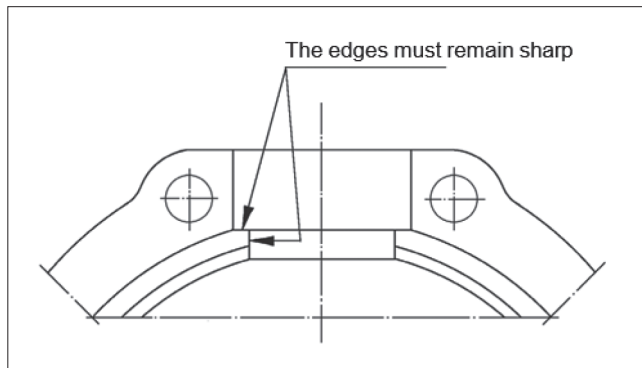

Fig. 6 Sealing surfaces
- Do not round the sharp edges at the convergence point of the body joint (1 & 2) and bonnet (8) sealing surfaces, as this could cause leaks. See Figure 6.